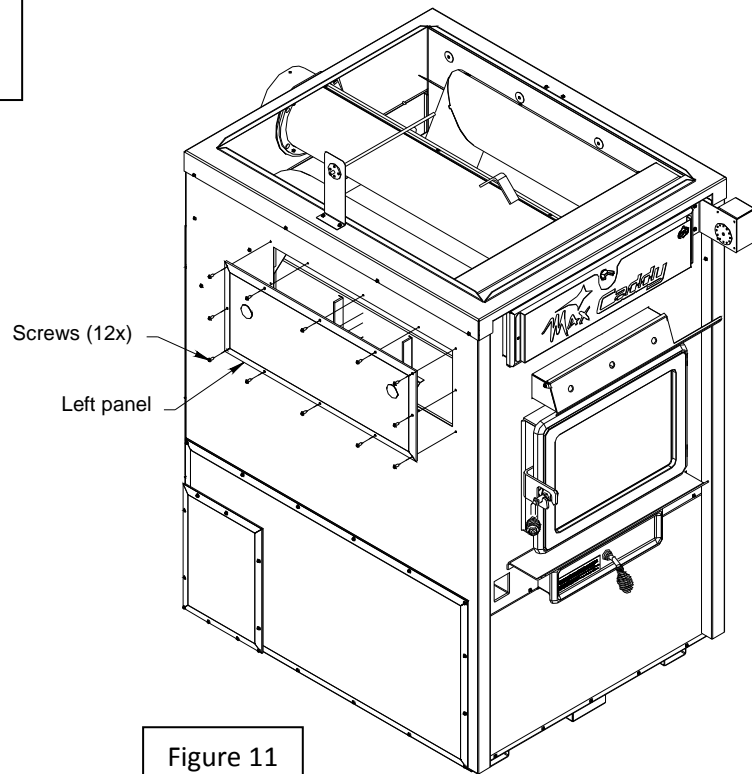

Figure 11
Step 2: Remove the left panel as shown in figure 11 and save the screws for step 5.